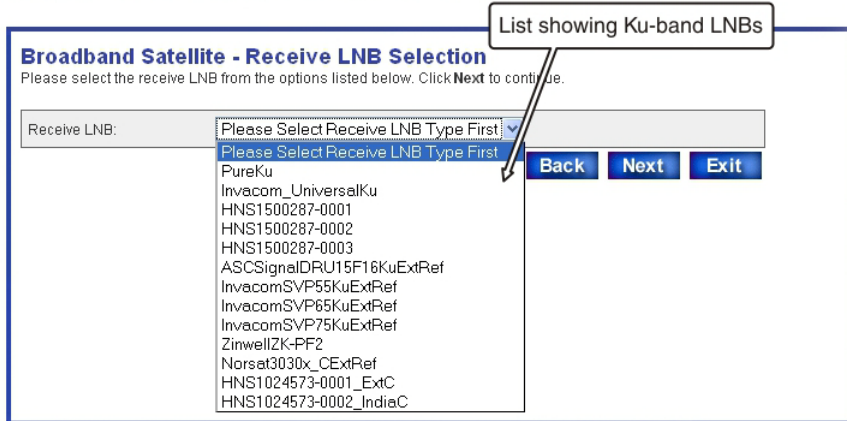

Figure 22: Receive LNB Selection screen—two variations
1. On the Receive LNB Selection screen, select the installed LNB from the Receive LNB drop-down list (Figure 22 on page 42).